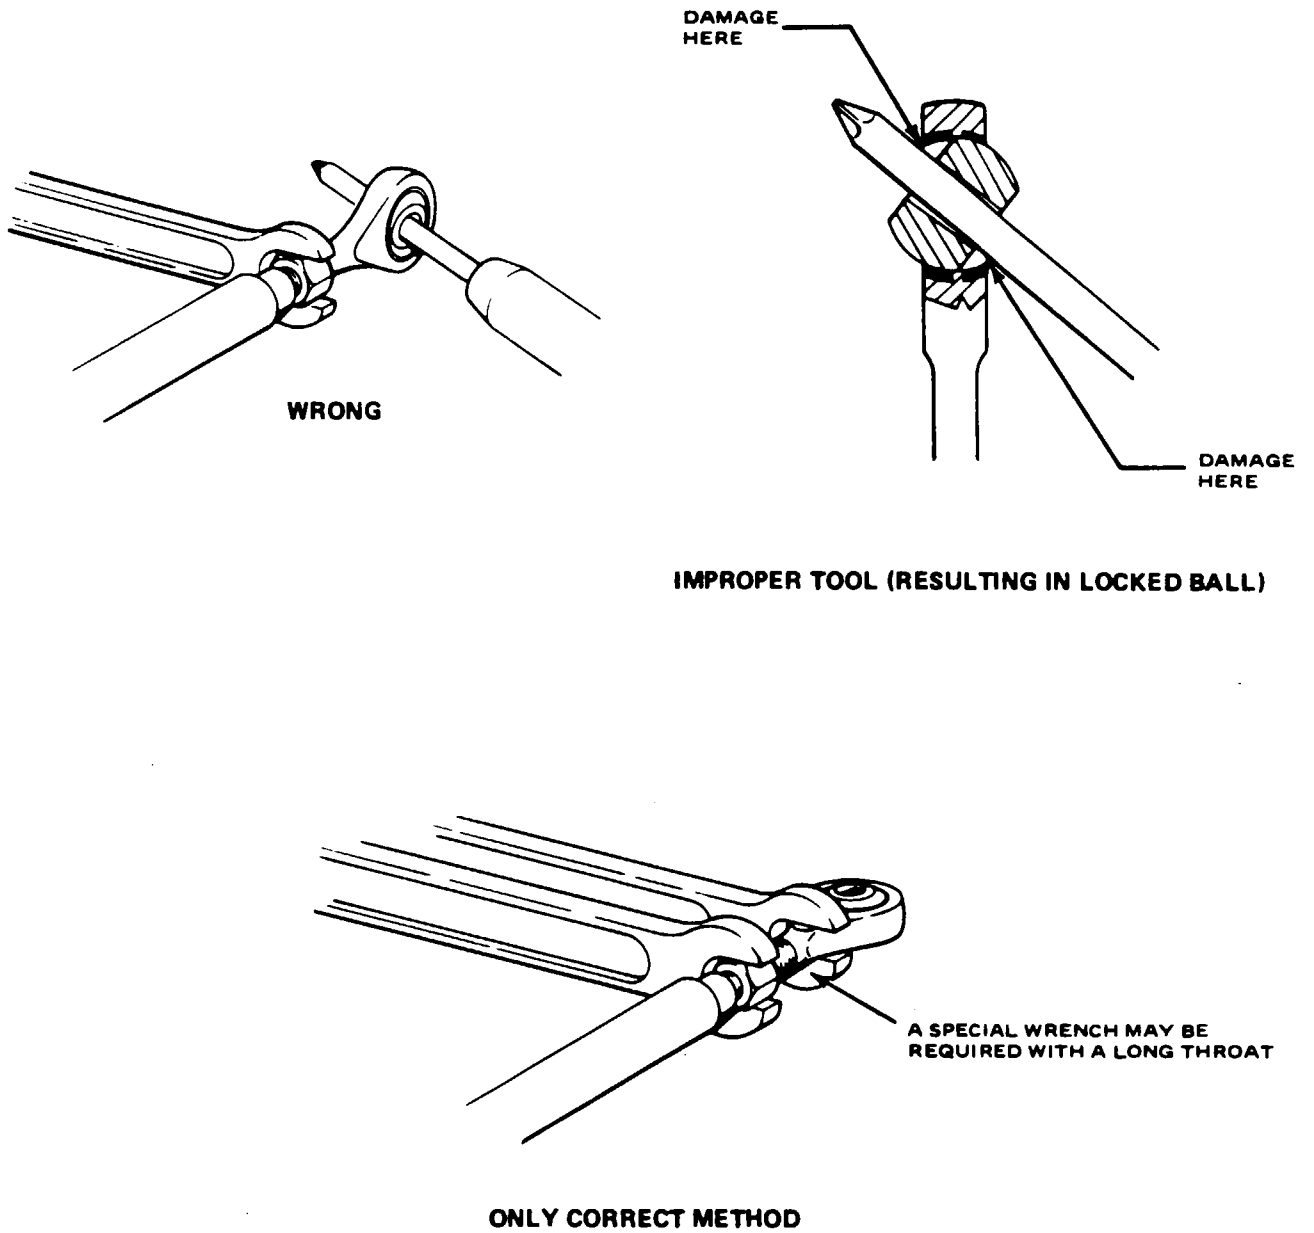

Figure 27-1. Correct Method of Installing Rod End Bearings
9. When installing rod end jam nuts, refer to Figure 27-1 for proper installation method.